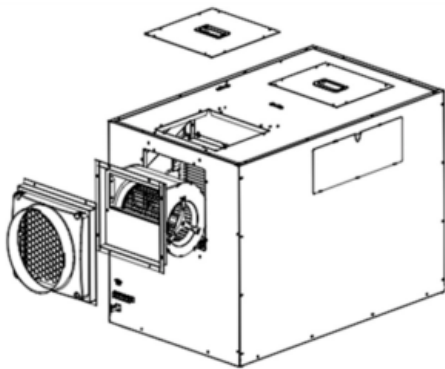

Figure 11
- To move the supply side (outlet) duct, use a Phillips head screw driver to remove the four screws holding the duct grate to the dehumidifier housing (See Figure 11).